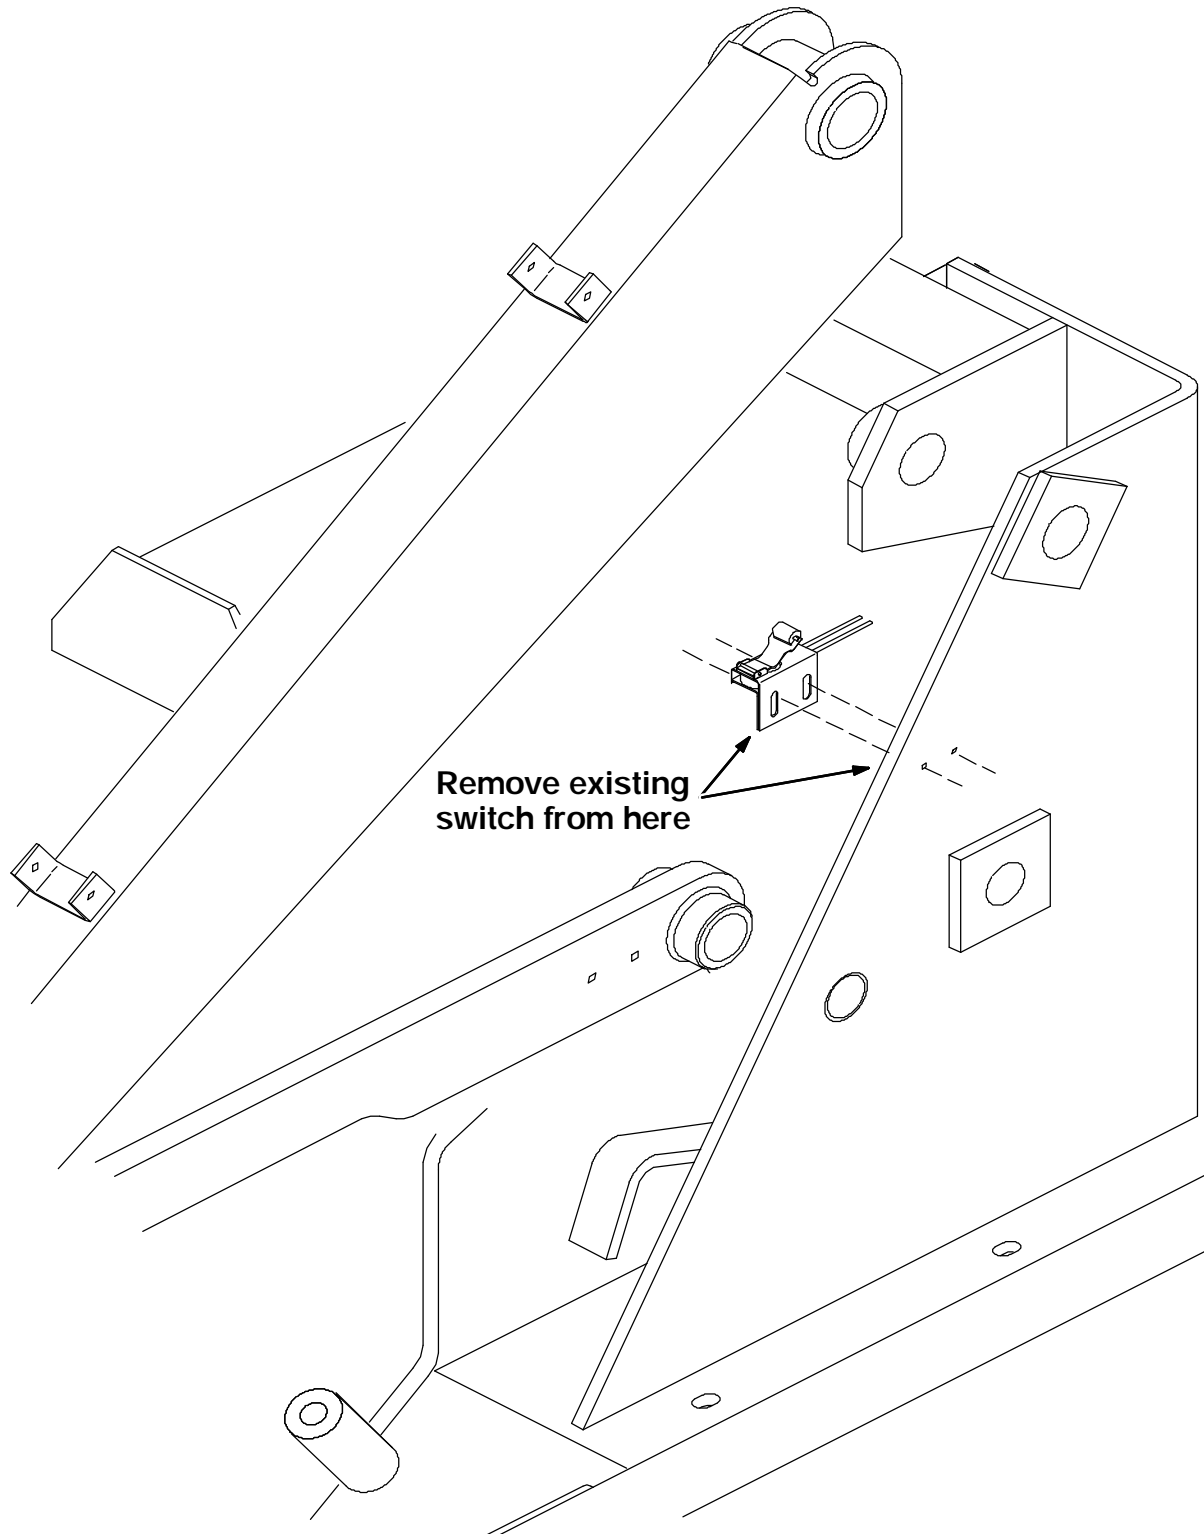
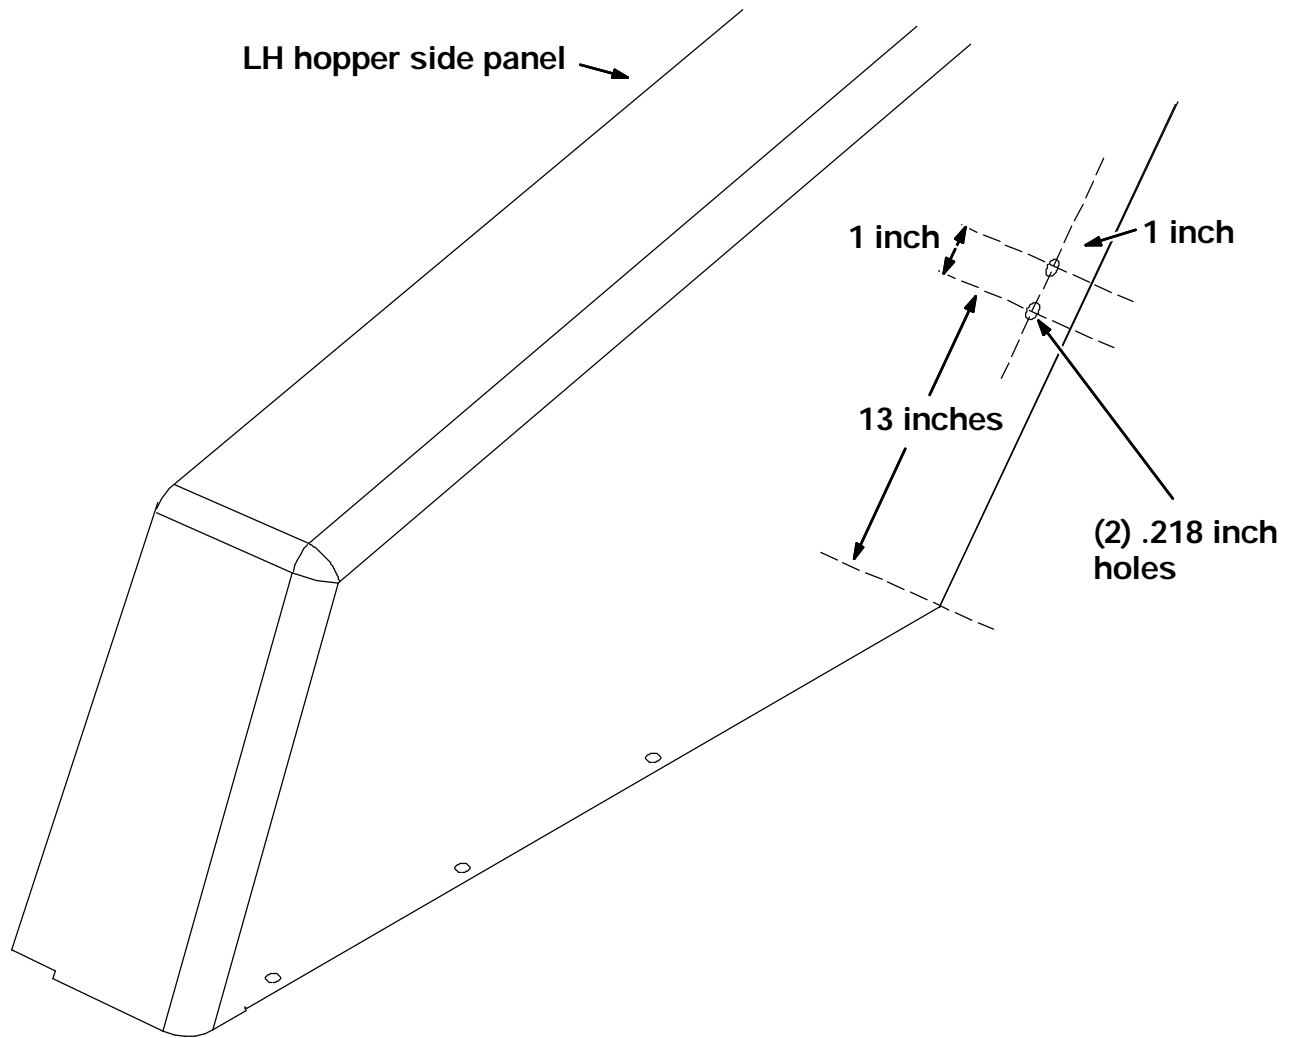

FIG. 1 - Existing Switch Assembly
FIG. 2 - Switch Hole Location
(Refer to FIG. 1 and 2)
2. Locate the existing hopper rollout switch on the left hand side of the machines hopper lift arm tower. Remove the switch and retain the mounting hardware. (Refer to FIG. 1)
3. Disconnect the rollout switch from the main harness. Remove the switch from the machine. (Refer to FIG. 1)
4. Connect the new harness (3) into the main harness at the point where the old switch was connected.
5. Route the new harness (3) along the with the hydraulic hose leading down the left side lift arm. Use the cable ties (9) to secure the new harness (3) to the hydraulic hoses. Also, use the cable tie mounts (8) and cables ties (9) to secure the new harness to the left side tower. Route the harness to the area of the new switch mounting location. (Refer to FIG. 1)
7. Use the dimensions in FIG. 1 to mark and drill the two switch bracket mount holes in the LH hopper side panel. (Refer to FIG. 2)
9. Install the switch mount bracket (2) on the inside of the LH hopper side panel using the two screws (4), washers (7), and two nuts (5). Hand tighten the hardware. (Refer to FIG. 2)
10. Install the new switch (1) onto the new mount bracket (2) using the hardware removed in step 2. Hand tighten the hardware. (Refer to FIG. 2)
11. Connect the new harness (3) to the new switch (1). Make sure the harness is secured properly along the lift arm using the cable ties (9).